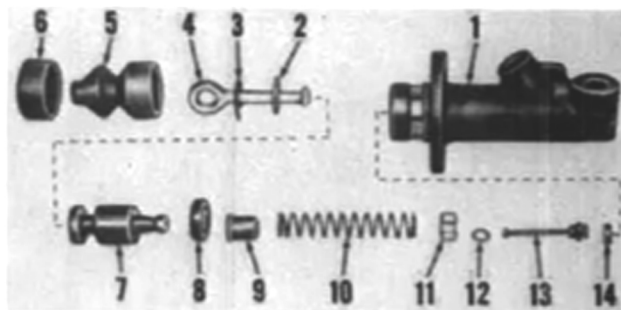

Fig. 156 - Exploded view of brake master cylinder.
124. OVERHAUL MASTER CYLINDER. With master cylinder removed, refer to Fig. 156 and remove boot (5) and snap ring (3). Remove plunger (7), seal (8) and all other internal parts (9